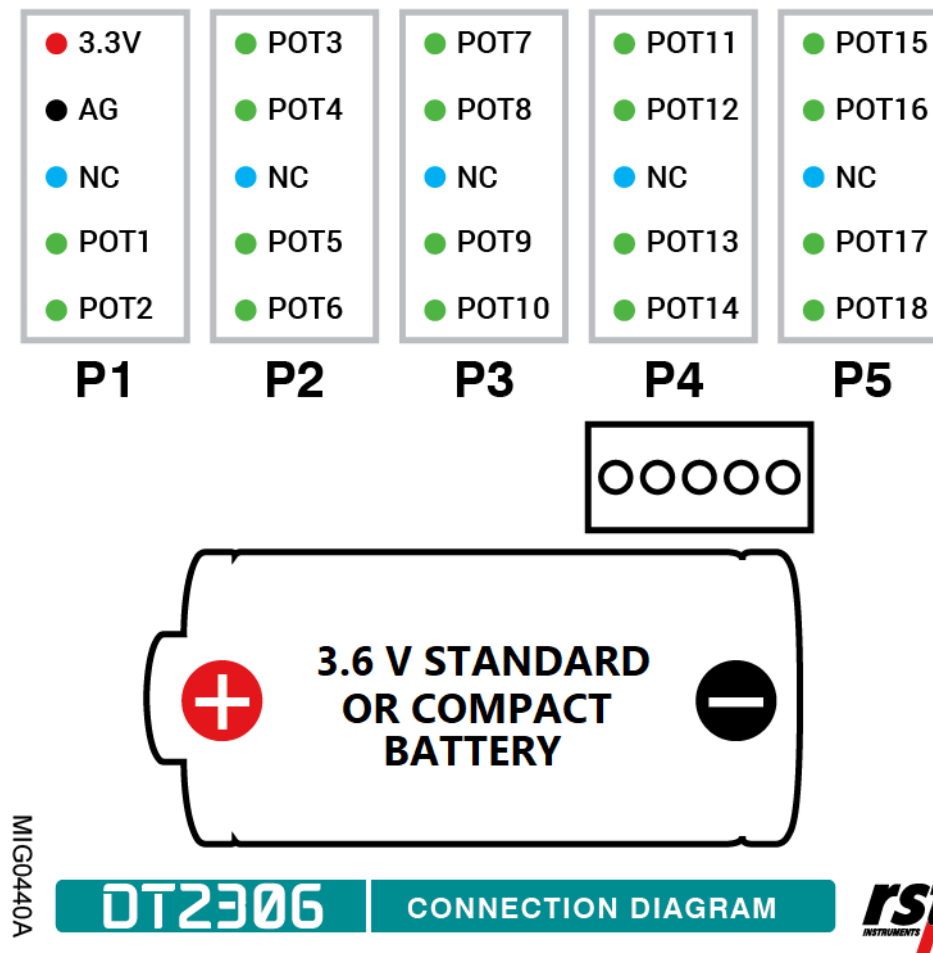

FIGURE 3-4 DT2306 CONNECTION DIAGRAM
- 5 Connect the leads. Refer to Figure 3-4.